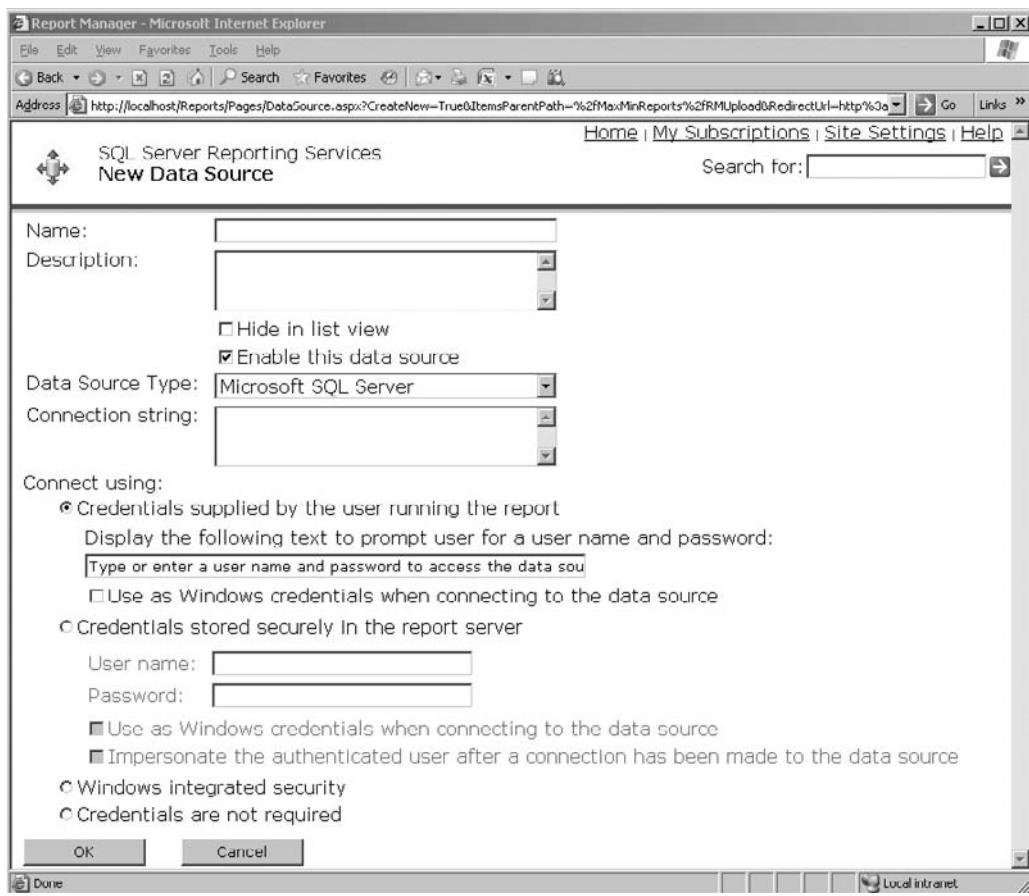

Figure 17-5 The New Data Source page
1. Click the New Data Source button on the toolbar on the Contents tab. The New Data Source page for a shared data source appears, as shown in Figure 17-5.